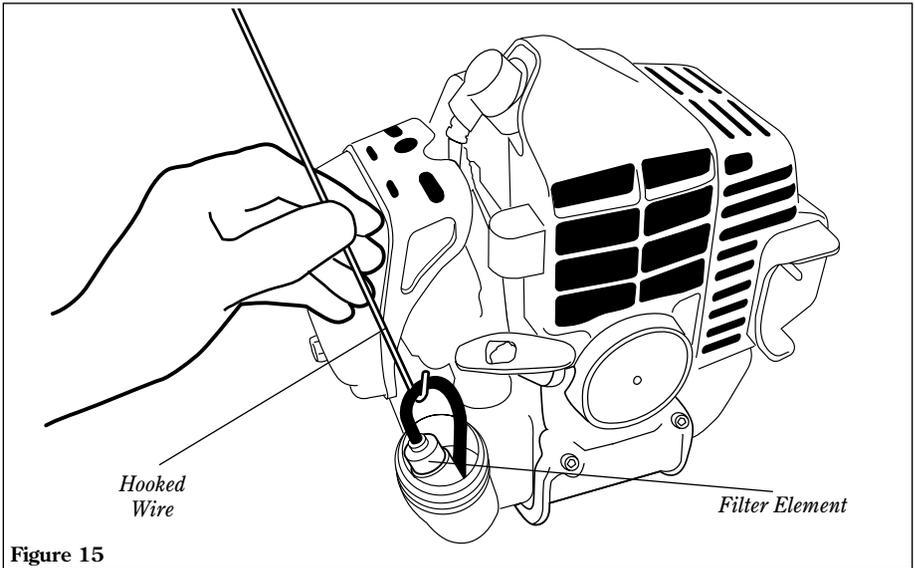

Figure 15
- Use a hooked wire to extract the fuel filter from inside the fuel tank. See Figure 15. Remove and replace the filter element. Before reinstalling the filter, inspect the condition of the fuel line. If damage or deterioration are noted, the M242 Multipurpose Tool Carrier should be removed from service until it can be inspected by a Shindaiwa-trained service technician.